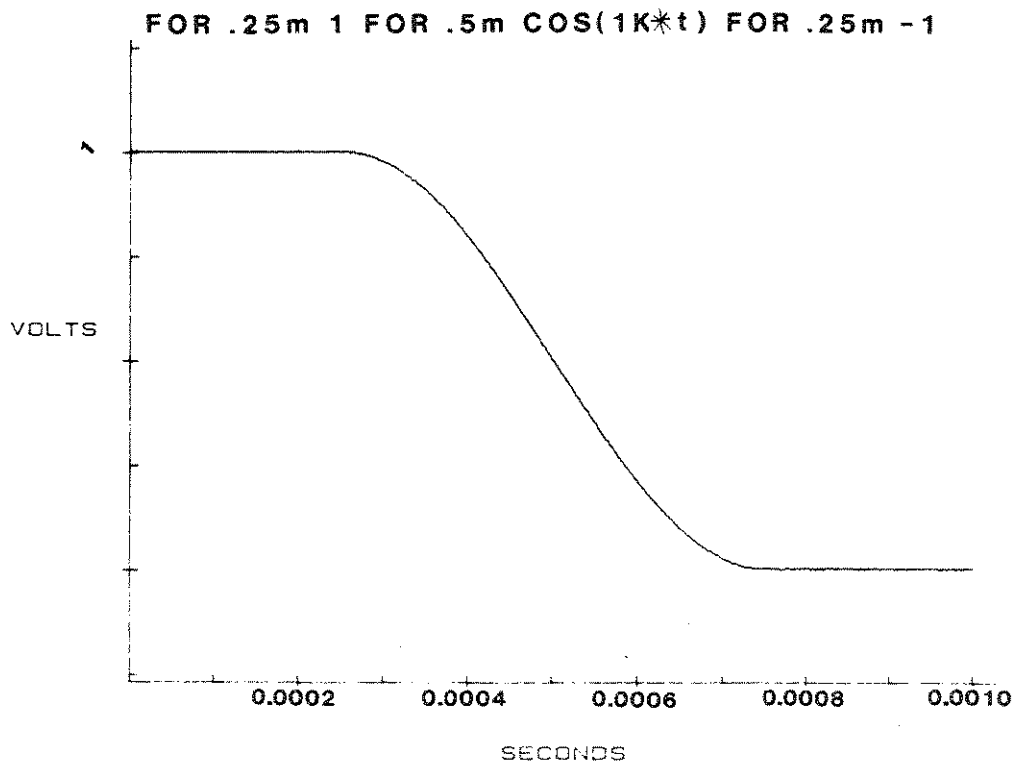
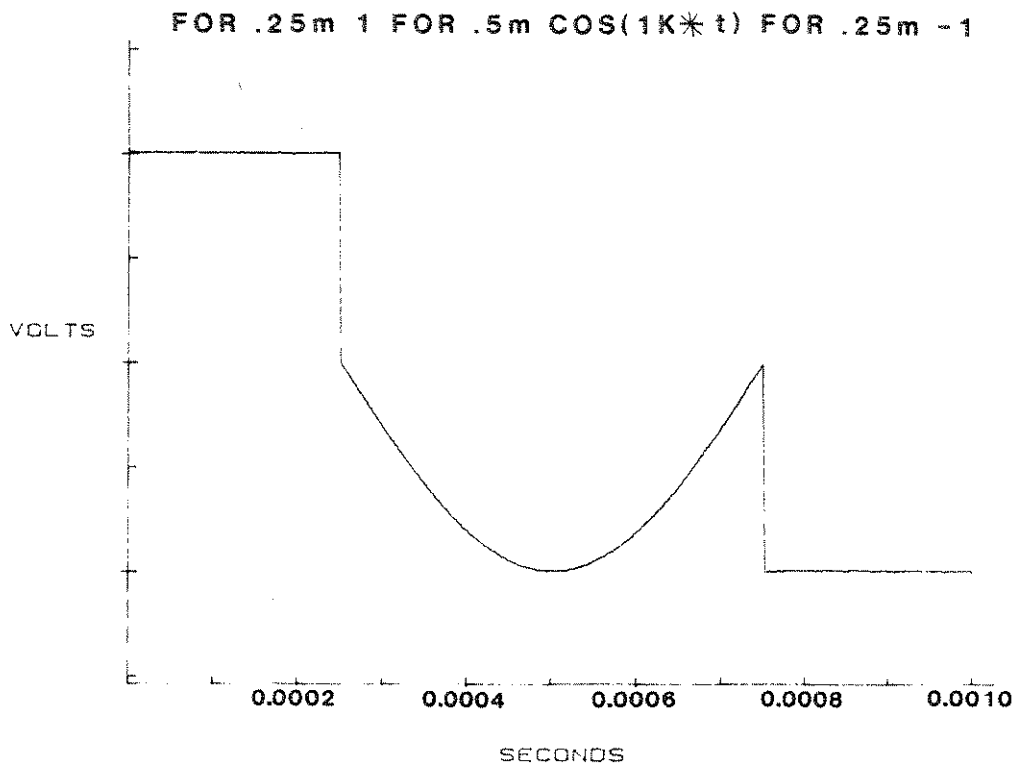

FIGURE 1
FIGURE 2
The “FOR” directive is of the form FOR {Time} {expression}; and it means evaluate the expression for the time duration. Let’s use the FOR directive in a few typical statements. FOR 2.2m SIN(1000 *T) will generate 2.2 cycles of a 1 kHz waveform (assuming CYC mode) since the specified evaluation time of 2.2 ms (note that seconds are implied) yields 2.2 periods at the specified frequency. FOR 5 1 produces a 1V level for 5 seconds. Note that the second, again, is implied and that the expression in this case is simply the number 1 which is separated from the time argument (5 seconds) by a space. FOR directives can be concatenated; that is, the multiple statement FOR .25m 1 FOR 500 μ COS(1K*t) FOR .25m - 1 will produce an output waveform that is +1V for 0.25 ms followed by one half cycle (0.5 ms) at 1 kHz with a peak amplitude of 1V (times 1 is assumed as the coefficient for the trig term) followed by -1V for .25 ms. Since we used Cosine and small t to express time the trig term started at 90 degrees and since its run time was 1/2 a cycle it ended at 270 degrees. The use of small or large T to express the variable (time) will be discussed below. It is imperative that a space be left in front of each successive FOR statement to delineate it from the previous one as shown in the foregoing example. Try this multiple FOR statement for drill. The result should be as shown in Figure 1.
(T) Variable Vs (t) Variable: “2020” expressions can contain either no variables or the variable time. The variable time has two notation methods (T or t). Large “T” is the cumulative time from the beginning of the expression (starts coincident with the sync out pulse) to the end of the expression (start of the next sync pulse or the end of the waveform depending on trigger mode). Small “t” is also cumulative but it resets to zero when first encountered and adds to large “T”. Each time that a new FOR statement is encountered small “t” begins at zero but large “T” is continuous and non-resettable. There are further considerations to the relation of “T” and “t” that will be elaborated upon in the REPEAT (RPT) directive discussion which follows, in this Section. Figures 1 & 2 illustrate the effect obtained relative to the use of large “T” or small “t” with both expressions being otherwise identical. In figure 1, we used small “t” so that when the second FOR directive was encountered the first data point was taken as Cosine of zero degrees, or +1V, which corresponded to the value of the last data point in the first FOR directive, also 1V. Whereas, in Figure 2 we used large “T” so that when the second FOR directive was started “T” was at a value of 0.25 ms (1/4 cycle at 1 kHz) and the first data point in the second FOR section was Cosine 90 degrees, or 0V.